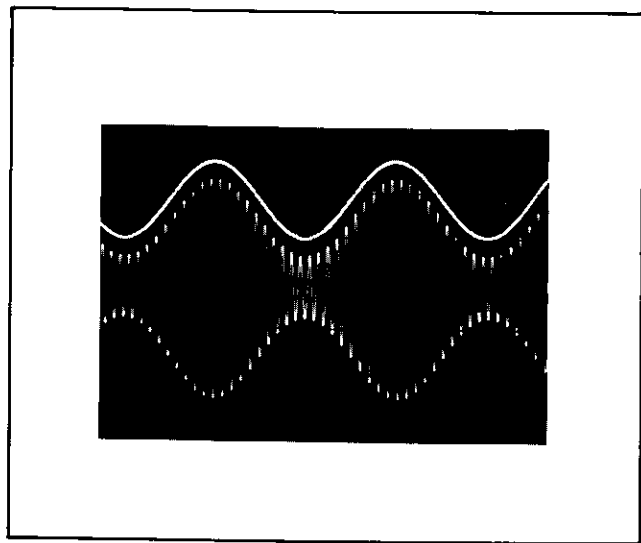

Figure 7. Amplitude Modulator Output
22. Figure 7 is the presentation on a dual-trace oscilloscope of the output of a typical Model 10534A, B Mixer used as an amplitude modulator. Upper trace is modulating waveform. Lower trace is output of Mixer. In